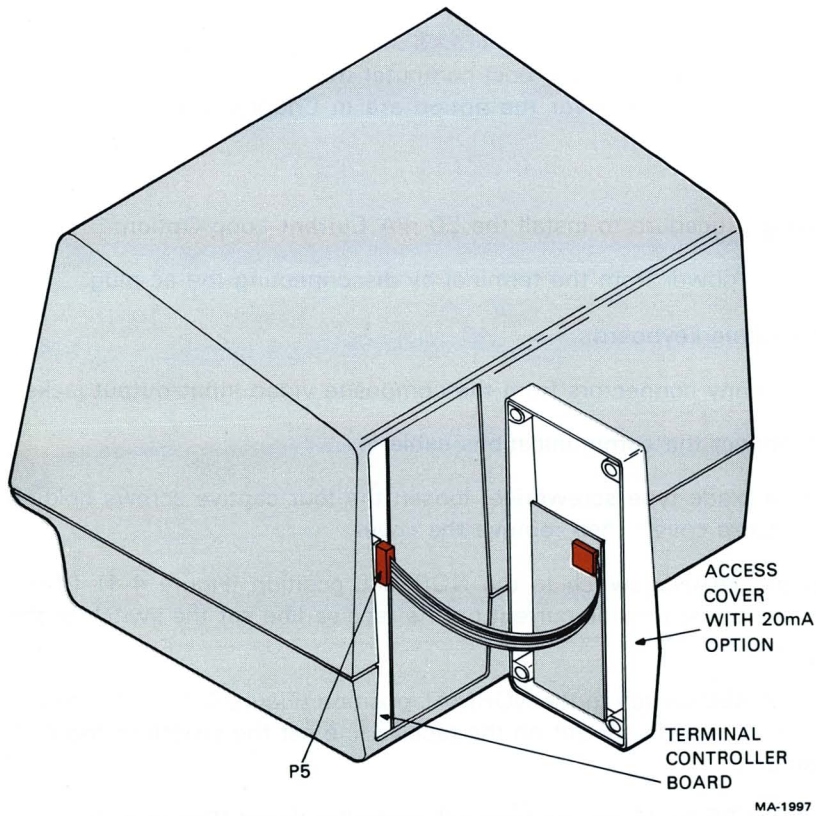

Figure 4-2 20 mA Current Loop Option Installation
8. Connect P5 to J5 on the terminal controller board (Figure 4-2).